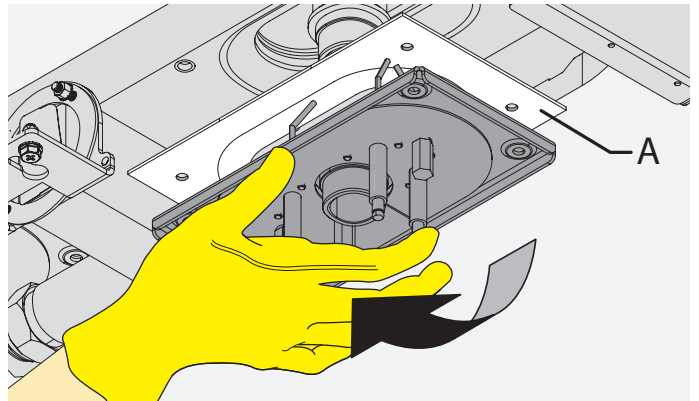

Figure 8
- d) Remove the torch by sliding sideways as shown in the **Figure 8**. In case of countertop ovens, lift the oven (about 2 cm) and slide the torch sideways.